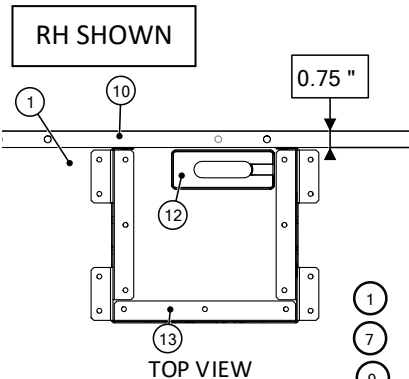

Figure 8
- Align the desk support box to the edge of the right-hand side of the credenza grommet, and offset 3/4" away from the back of the low credenza storage, (Figure 8).